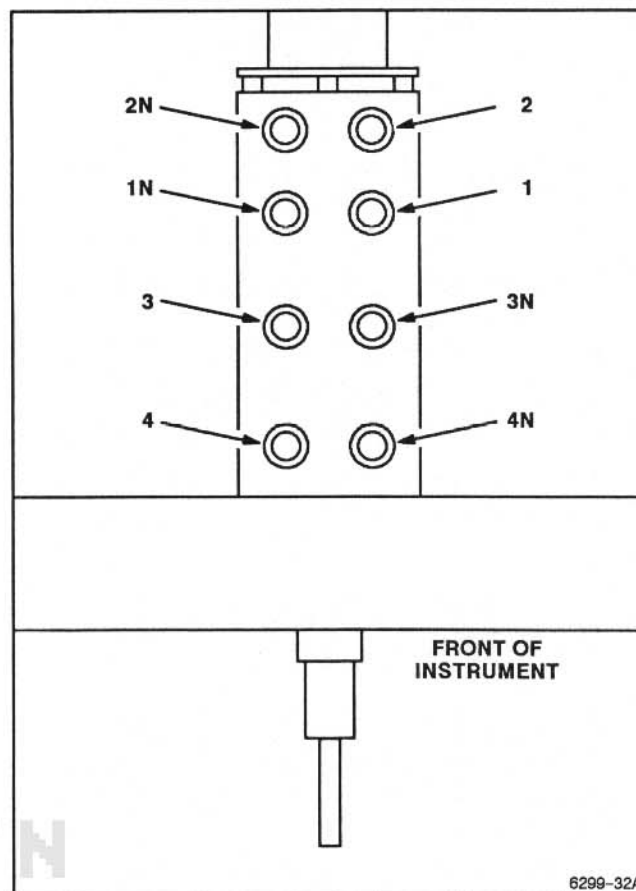

Figure 5-1. Attenuator trimmer adjustments.
g. ADJUST—Trimmer 1 for flattest response on the square wave signal. See figure 5-1 for location of the trimmers.